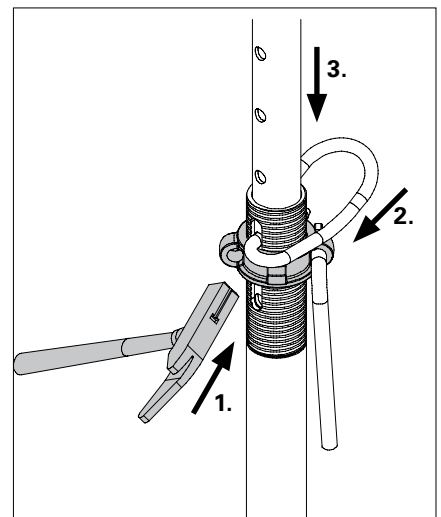

Fig. A2.02a
2. Hold inner tube firmly and pull out G-Hook. (Fig. A2.02a/A2.03a)